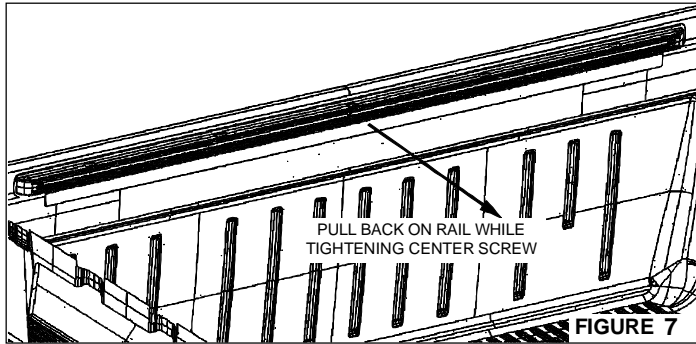

FIGURE 7
Re-install the (4) previously removed Torx screws through the front C.M.R., into the front wall of truck box and tighten. (Fig. 7 & 8)